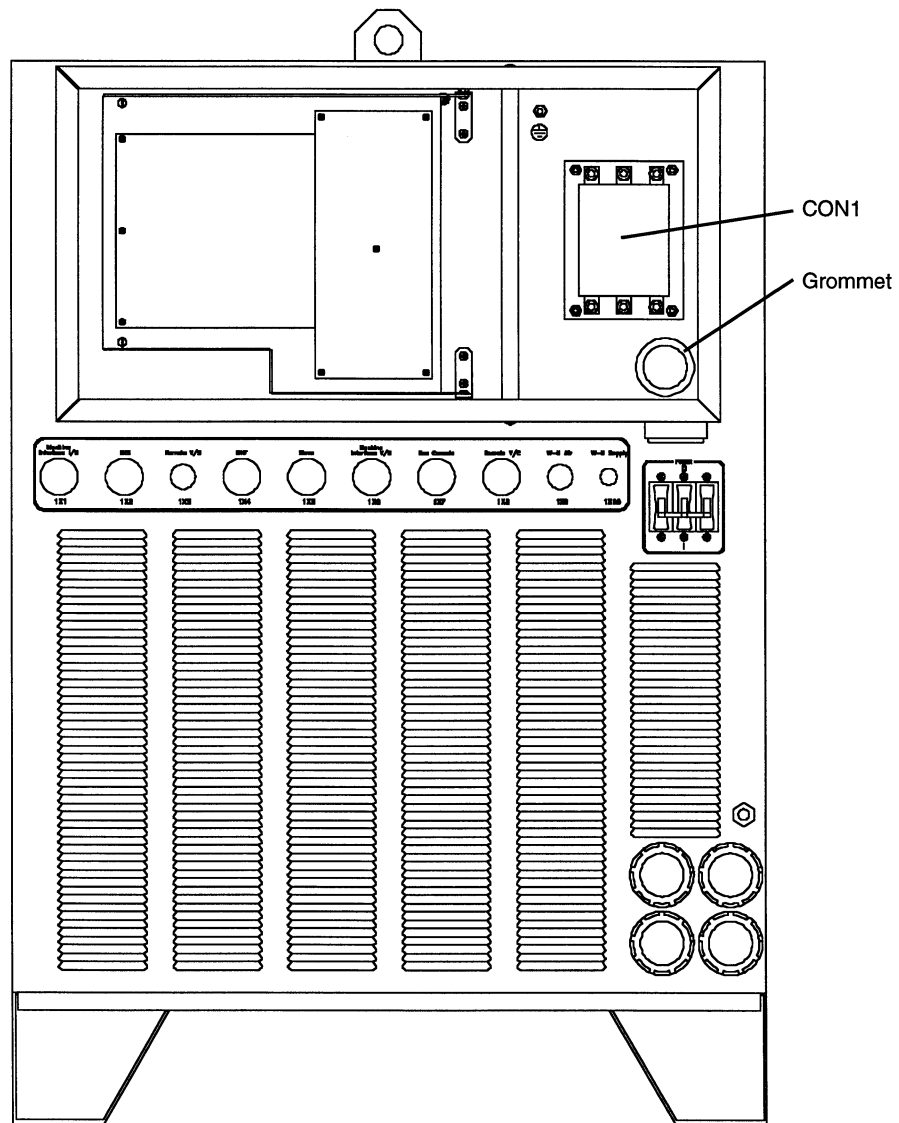

Figure 4 Main Contactor CON1 Location
2. Locate the main contactor CON1 at the rear of the HT4001 power supply. Fig. 4.